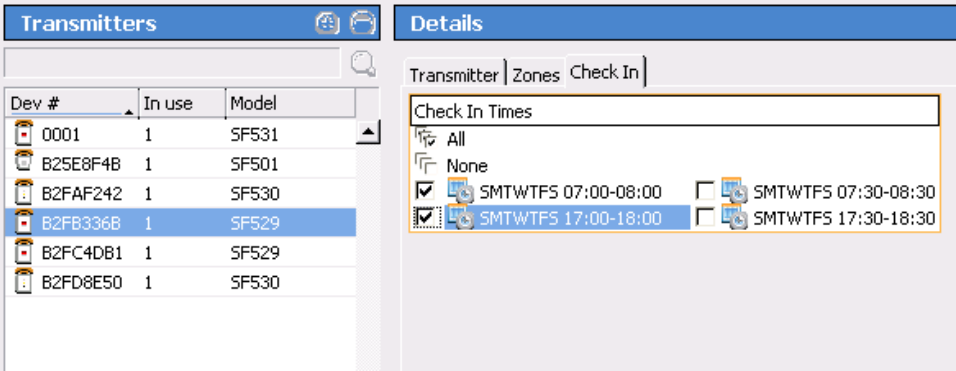

Figure 45: Assign Check-In Times
3. Click on the **Check In** tab in the **Transmitters-Details** area. This tab is only available for transmitters that have been configured as check-in devices. This tab is shown below in *Figure 45*.